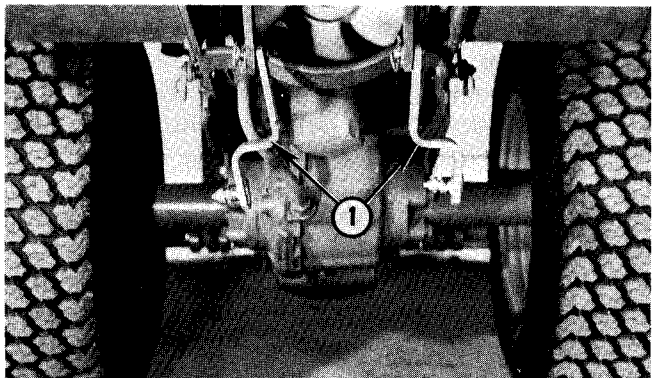
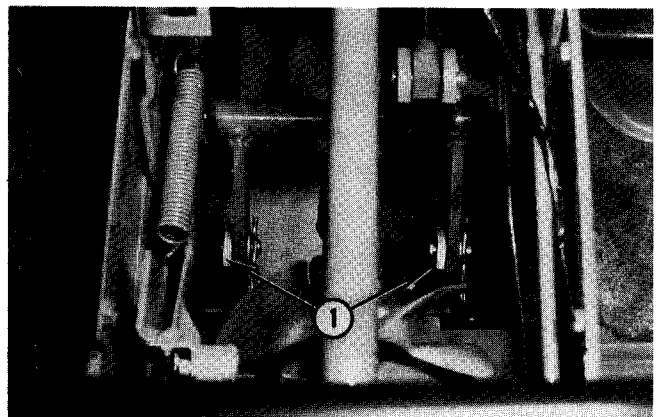

Fig. 42 — Hanger Straps Installed
Fig. 43 — Hanger Straps Installed
4. Install hanger straps on Tractor as shown in Figs. 42 and 43. Fig. 42 is an underside view of the Tractor looking rearward. Fig. 43 is a top side view with center cover removed. Note that hanger straps are positioned on the left side of the rockshaft lift arms and that the connector pins on lower end of hanger straps point to the right. There is a right and left hanger strap.